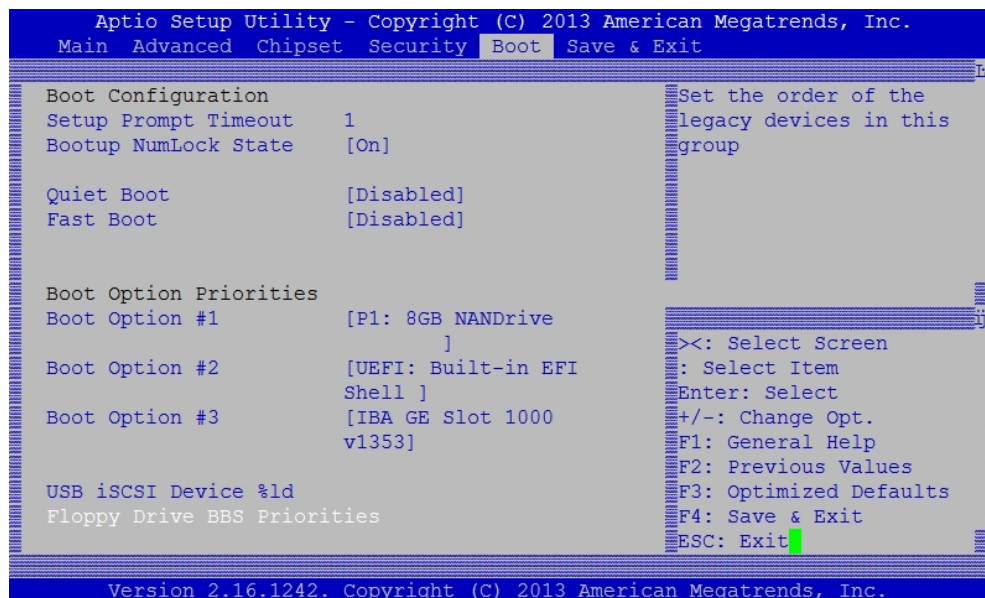

Figure 7-7: Defining the Boot Device Priority
2. Use the up/down keys to select *.(Figure 7-7 below).*